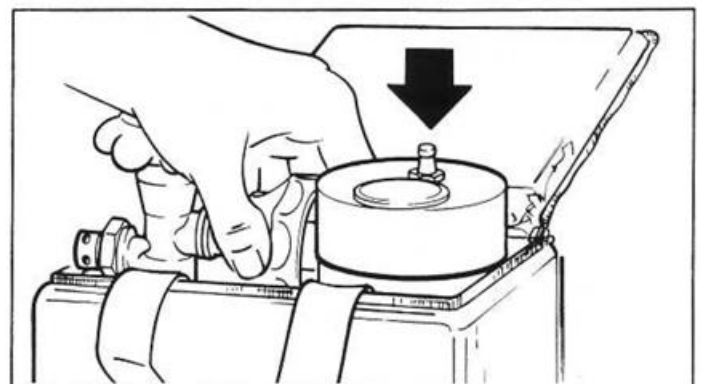

Figure 13. Reinstalling Assembly in Case.
- Reinstall the mixer / cylinder assembly in its case as shown in Figure 13. Make sure the mixture pressure gauge is visible. The apparatus is now ready to use.